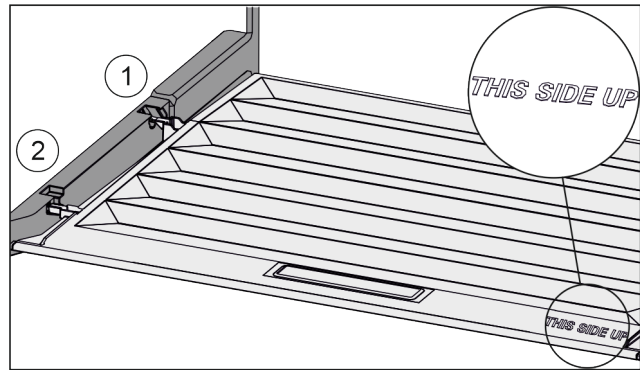

*Fig. 101*
- ▶ Pull the lid up at the front to the opening in the retaining parts *Fig. 101 (1)*.
- ▶ Lift from the back and pull it up and out *Fig. 101 (2)*.